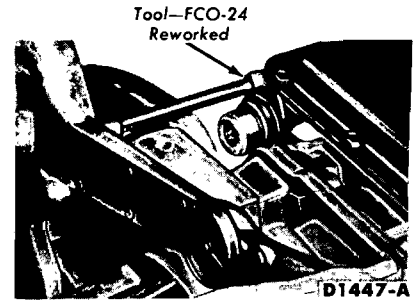

FIG. 116—Installing Vacuum Unit
42. Install the vacuum unit, gasket, and control rod in the case. Using the tools shown in Fig. 116, torque the vacuum unit to 15-23 ft-lbs.